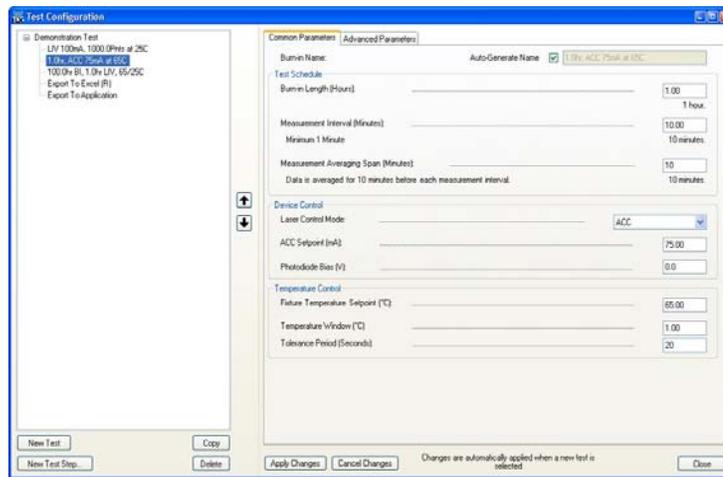

Figure 4.6 Burn-in Configuration
- Used in conjunction with the external photodiode array calibration file specified in the Fixture View shown in Figure 4.6. If a calibration file has been specified, an output wavelength must be set in the Laser Wavelength box.
The Monitored Burn-in configuration screen is shown in Figure 4.6